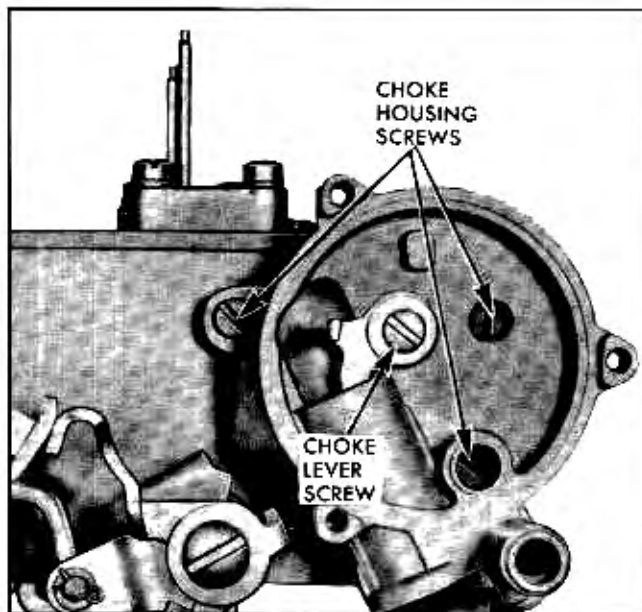

Fig. 6B-74 Location of Choke Housing Screws
3. Remove choke lever attaching screw and retaining washer. (Fig. 6B-74). Remove choke piston, lever and link assembly by rotating piston from bore.
4. Remove three choke housing to body attaching screws (Fig. 6B-74) and remove choke housing and gasket.